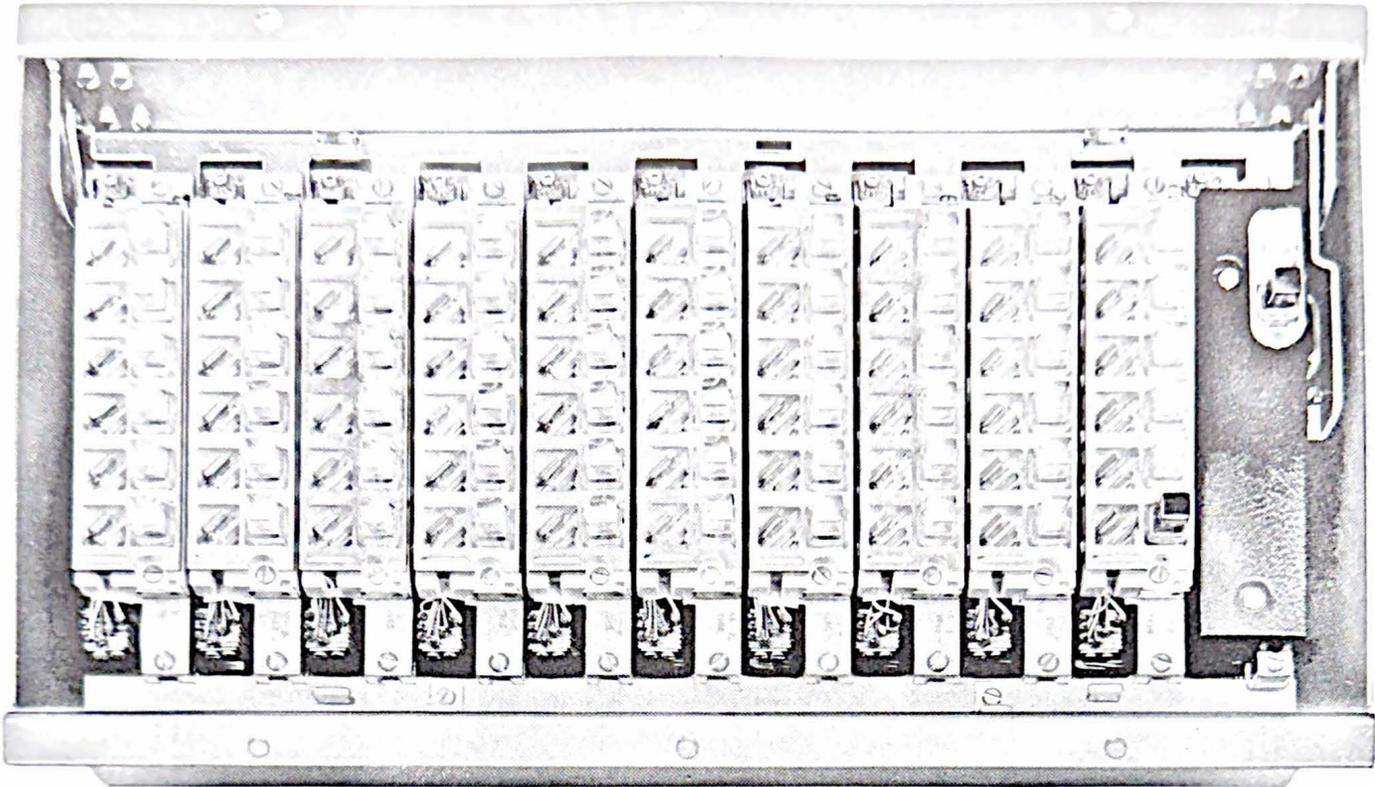

Fig. 6 — 402A Key Mounting, Faceplate Removed
4.01 Fig. 6 shows a typical 402A key mounting with keys in place.